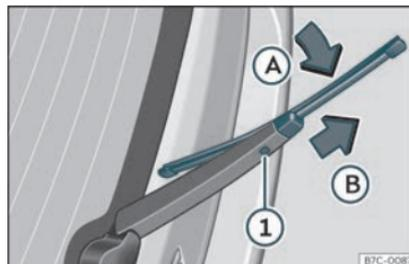

Fig. 37 Changing the rear wiper blade
- Turn the blade slightly >>> Fig. 37 (arrow ❸).
- Hold down the release button ❶ while gently pulling the blade in the direction of arrow ❷.
- Insert a new blade of the **same length and type** in the rear wiper arm in the opposite direction to the arrow ❸ and hook into place button ❶.